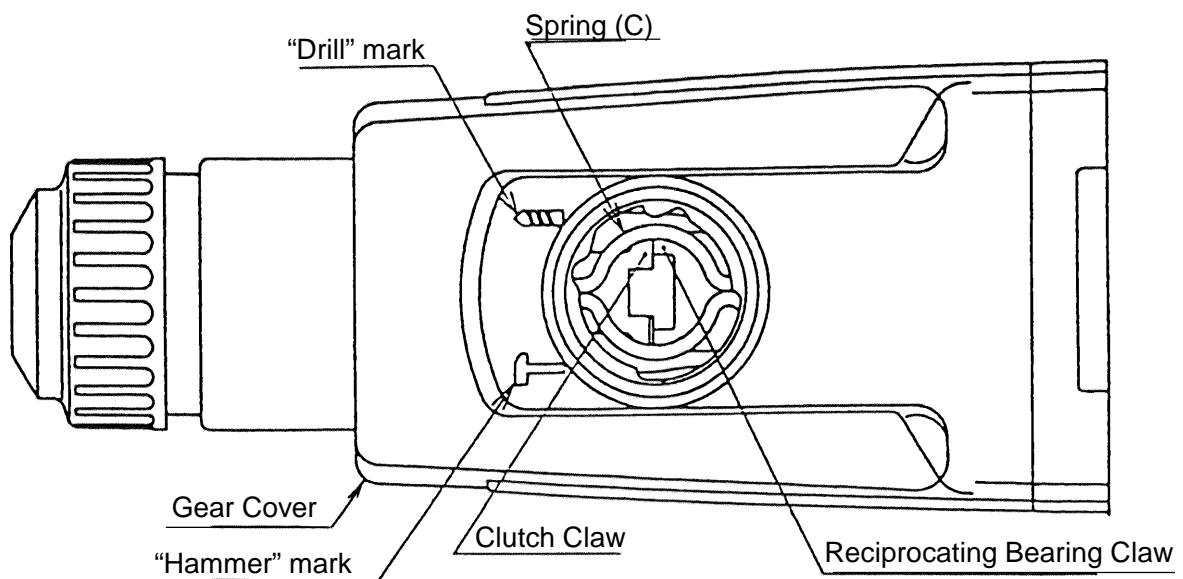

Fig. 5
(2) To make reassembly easier, coat grease on the Steel Balls ①⑦ ①⑧.
(3) Reassembly of the Change Lever ①①:
With a minus screwdriver or similar tool, move the Clutch ③⑦ and the Reciprocating Bearing ③⑨ so that the claw (protruding portion) of the Reciprocating Bearing ③⑨ and the claw (protruding portion) of the Clutch ③⑦ are in contact. (See Fig. 5)